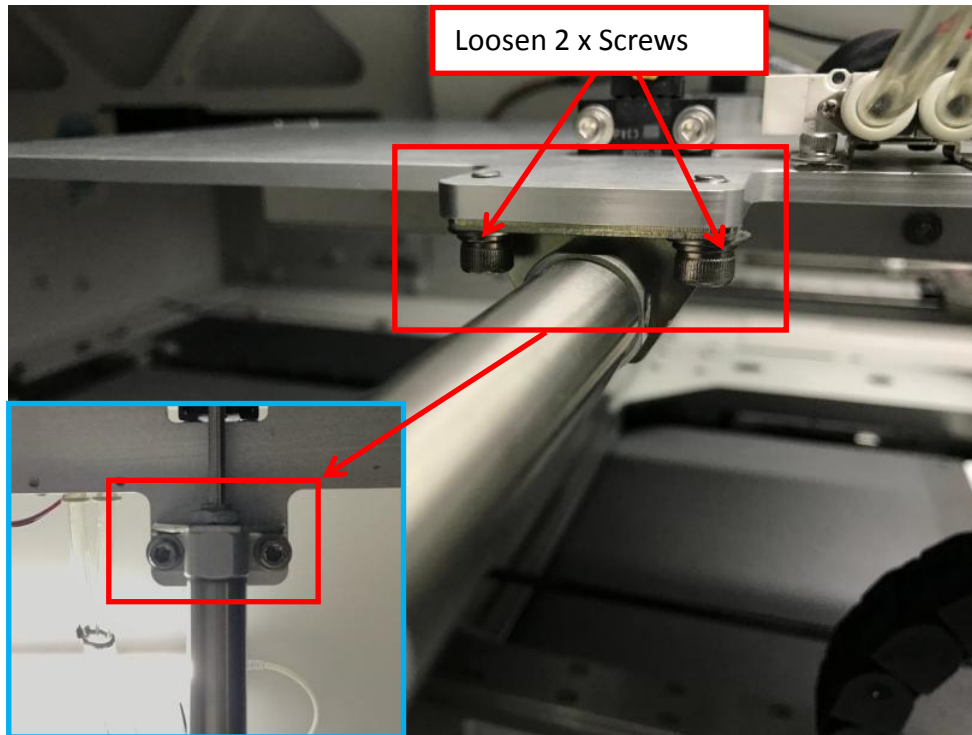

Figure 4 Inner Barrier Cylinder Removal
4. Loosen 2 x Screws as shown in Figure 4.